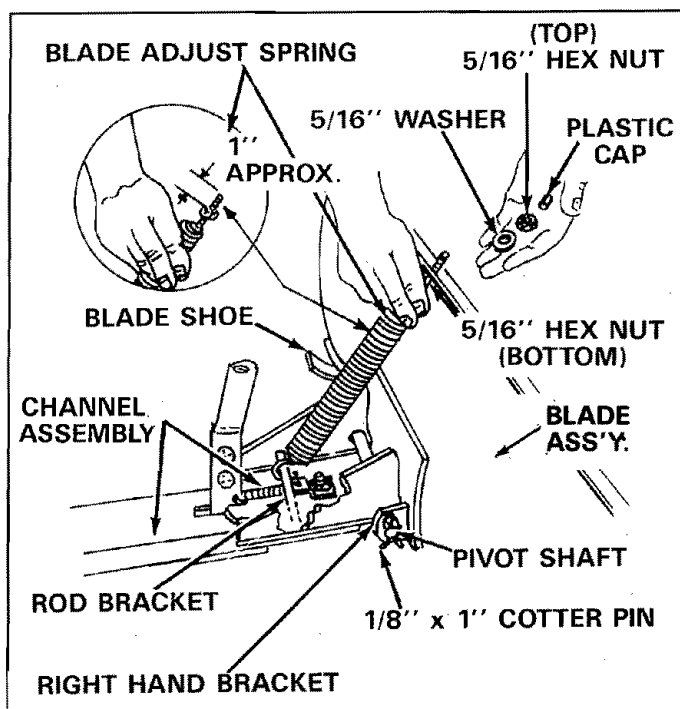

**FIGURE 9**
- Adjust 1/2" x 1-1/4" stop bolt, previously assembled into channel assembly (step 2). See figure 9. Adjust hex nuts, above and below channel to provide at least 1/8" clearance between channel and the tractor engine pulley with the stop bolt positioned against frame member. See figure 9.